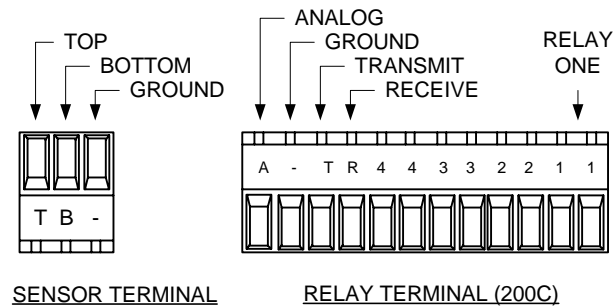

FIG 3.6.1
- 3.3. Install a two or three conductor cable between the junction box and the indoor display. Single sensors eight feet and less in length use two conductor cable. Dual sensors or sensors greater than eight feet require three conductor cable. An 18 gauge cable, preferably stranded conductors, with an FT4 jacket (gray PVC) is recommended for most applications. The sensor power cable(s) are connected to the cable run inside the junction box. See Fig 3.3.1. The screw terminal plug is installed on the display end of the cable and plugged into the display. See Fig 3.6.1
The display plug-in screw plug is labeled for relay 1-4 terminals. See Fig 3.6.1.